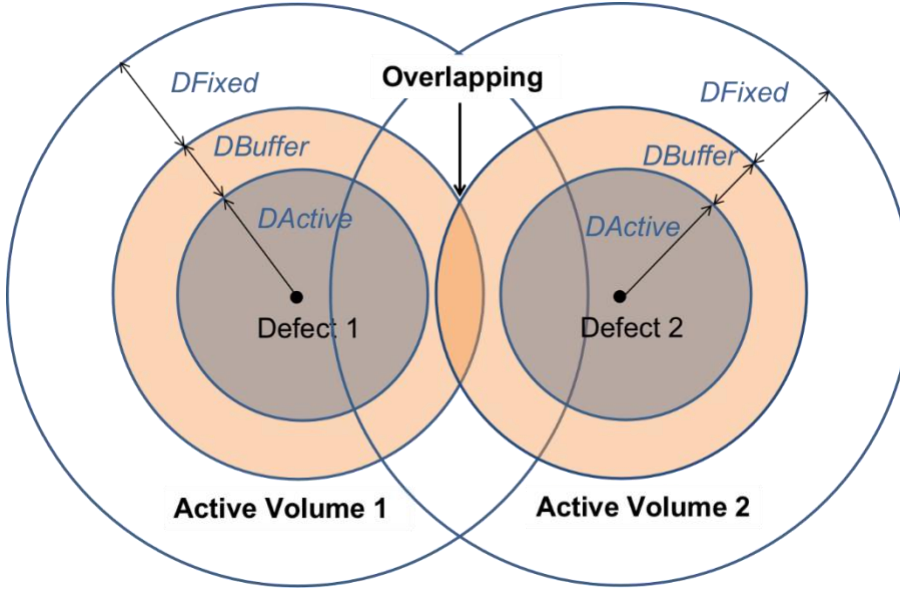

Figure 3.2. Schematic view of constructing active volume
As shown Figure 3.2, an active volume (AV) is a sphere centered with a reduced defect from Step 2. The AV normally consists of active, buffer and fixed layers. The corresponding radius/thickness are *DActive*, *DBuffer* and *DFixed*. There is no constrain on atoms in the active layer. Atoms in the fixed layer are fixed throughout saddle point search. Atoms in the buffer layer are fixed at saddle point search on active atoms and can switch to active atoms if *SearchBuffer* in *spsearch* is True.
If the distance between two defects is smaller than  $2.0 * (DActive + DBuffer)$ , there will be overlapping atoms (Figure 3.2), which are assigned to different active volumes. If *Overlapping* is False, the reduced defects with the distance between at least one defect pair is smaller than  $2.0 * (DActive + DBuffer)$  will form a superdefect. In other words, a superdefect is a chain of reduced defects with the distance cut of  $2.0 * (DActive + DBuffer)$ . As shown in Figure 3.2, Defects 1 and 2 will form a superdefect with Defects 1 and 2 as constituent defects, AV 1 and 2 will merge into one AV, in which the gray area is the active layer, orange area is the buffer layer and blank area is the fixed layer. The defect center of a superdefect is the center of its constituent reduced defects. If *Overlapping* is True, no action is taken at Step 3, which is equivalent to treating every reduced defect as a superdefect.